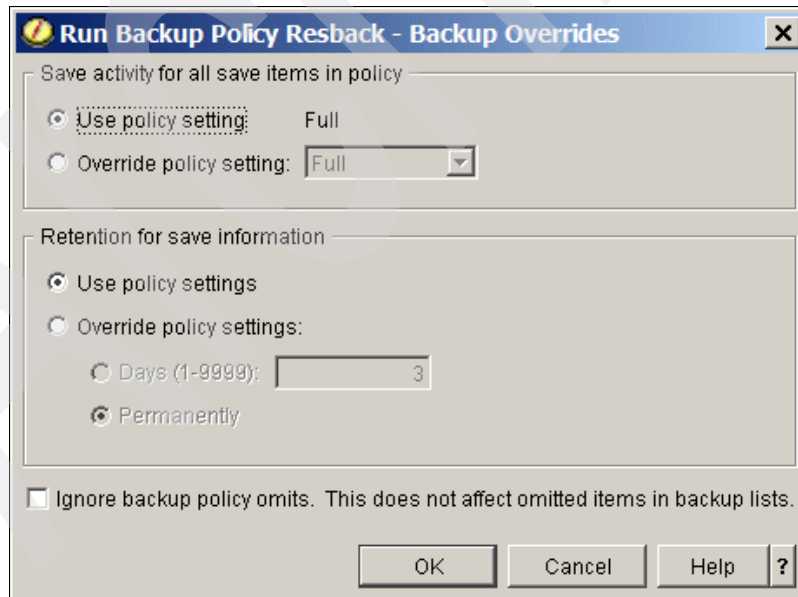

Figure 6-32 Run backup policy - use or override policy settings
- Next, you are presented a window where you can confirm or change the type of backup as specified in the backup policy. In our example we confirm what is defined in the backup policy, as shown in Figure 6-32. After using or overriding the policy settings, click **OK**.